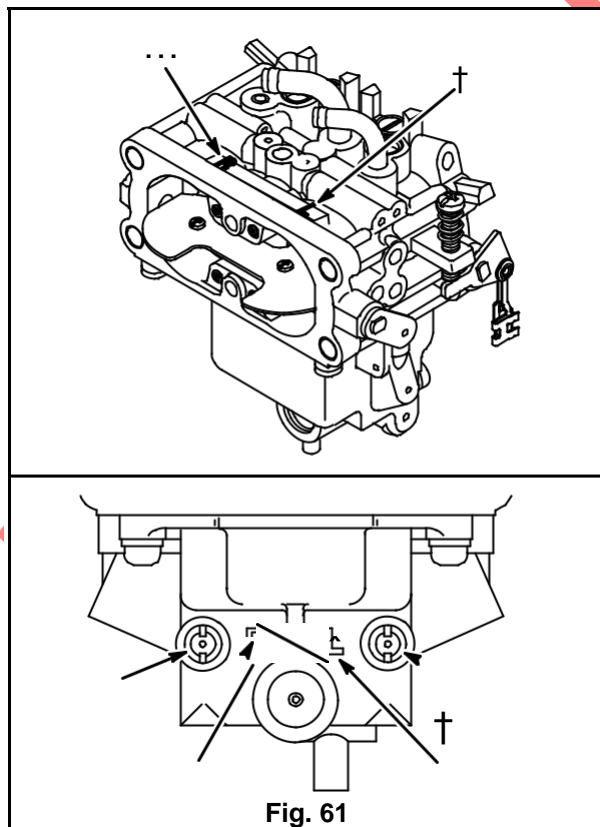

Fig. 61
3. Remove fixed main jets (7, 8), Fig. 61.
NOTE: The carburetor is equipped with a different size fixed main jet for each cylinder. The carburetor is marked L (6) for the #1 cylinder and R (5) for the #2 cylinder. The carburetor is marked in the upper body near the choke plate and the lower body near the main jet plugs. See Fig. 61.